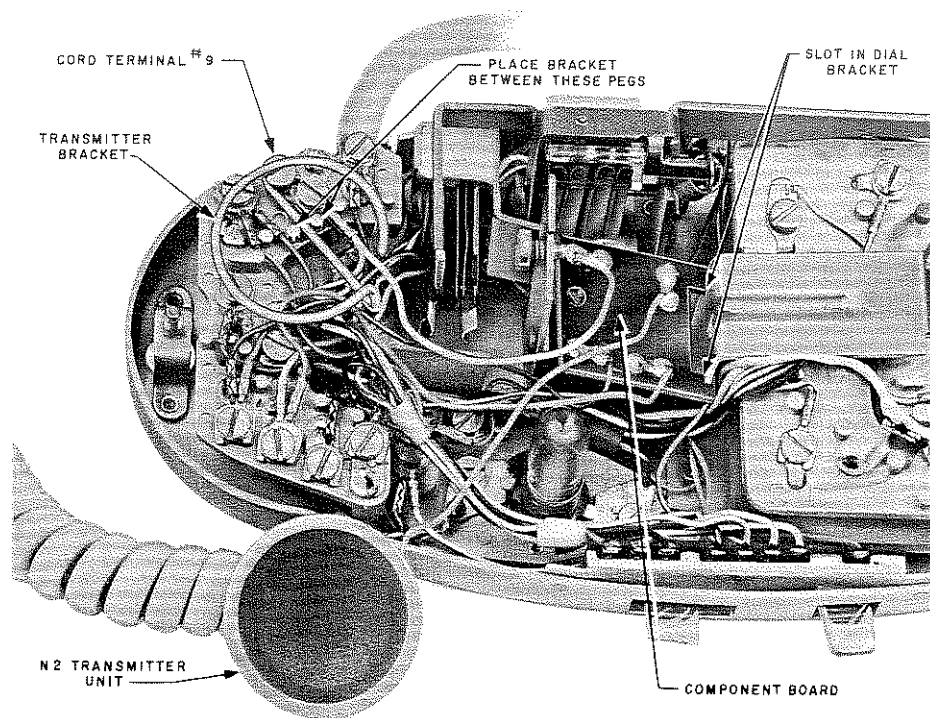
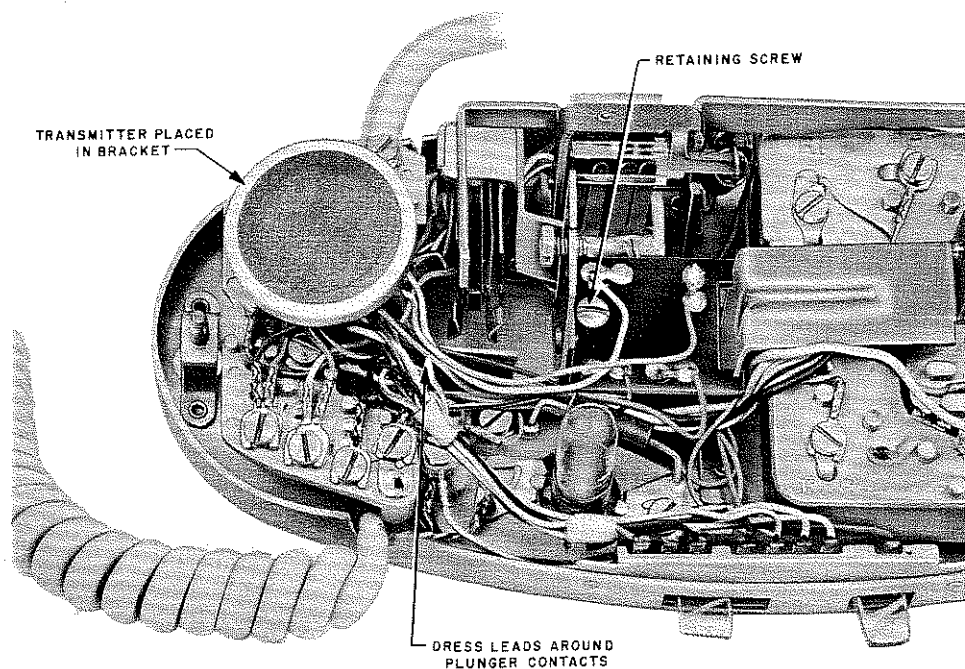

Fig. 8 — Location of 664A Transmitter Unit Components in 711BW Telephone Set
Fig. 9 — Final Assembly of 664A Transmitter Unit in 711BW Telephone Set
6.03 The 664A transmitter differs from the 659A and 660A transmitter in that it is not a one-piece unit. The transmitter unit and bracket are installed on the cord terminal strip while the component board assembly is installed under the dial as shown in Fig. 8 and 9. Be certain that the transmitter bracket is connected to terminal 9 on the cord terminal strip and lies between the two molded pegs of the terminal strip as shown. The component board
assembly is notched on one end to fit in the slots of the dial mounting bracket and is held in place by a screw in the other end. The board is placed so that the components are on the under side when installed. Fig. 8 shows a transmitter and board assembly partially installed. Fig. 9 shows the completed installation.